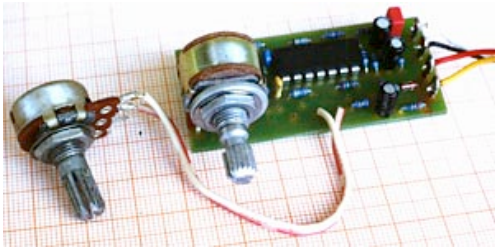

Fig.10. Active electronic circuit that acts as a second-order low-pass- filter and imitates the sound characteristics of many different guitar and bass pickups
4. Install an active electronic circuit that acts as a second-order low-pass filter. This will give you the possibility to adjust the resonant frequency and the resonance height continuously with potentiometers, instead of only in discrete steps. So you can imitate the sound characteristics of many different guitar and bass pickups. These circuits are called „State Variable Filter". The first instrument manufacturer to apply this was Alembic since the seventies, later it was copied by others. Completely mounted circuit boards of this kind, fitting into most common instruments, are available from the author (Fig. 10). They need a 9 V battery for supply, and on some instruments some space inside the body that must be routed.